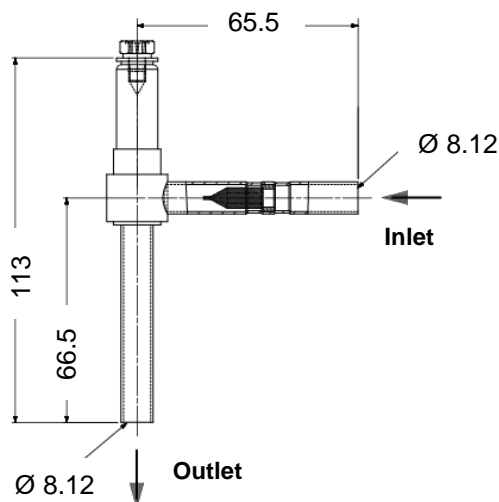

Figure 12: Control valve without coil
- The valve operation is directional. See **Figure 12** below for inlet and outlet locations.